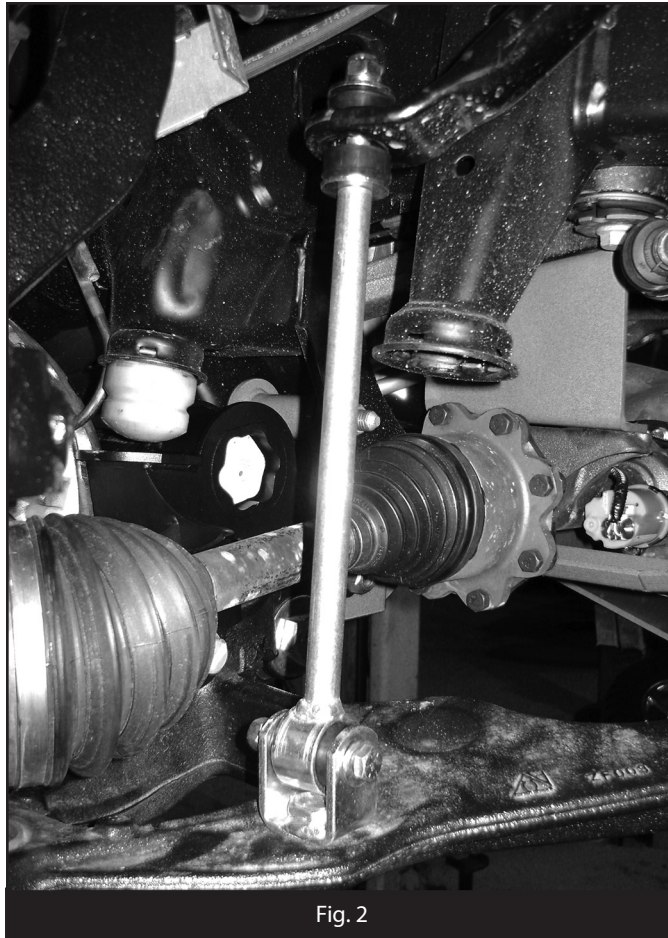

Fig. 2
5. Install the new sway bar links into the new brackets and fasten with the provided 3/8" x 2-1/2" bolts, nuts and 3/8" SAE washers (BP 582). Leave bolts loose. Install a provided 7/16" washer followed by a stem bushing. Install the link end into the sway bar end and fasten with a second stem bushing, 7/16" washer and 7/16" nylock nut (BP 582). Tighten the 7/16" nut just until the stem bushings begin to swell. (Fig 2) Torque the 3/8" hardware to 30 ft-lbs.